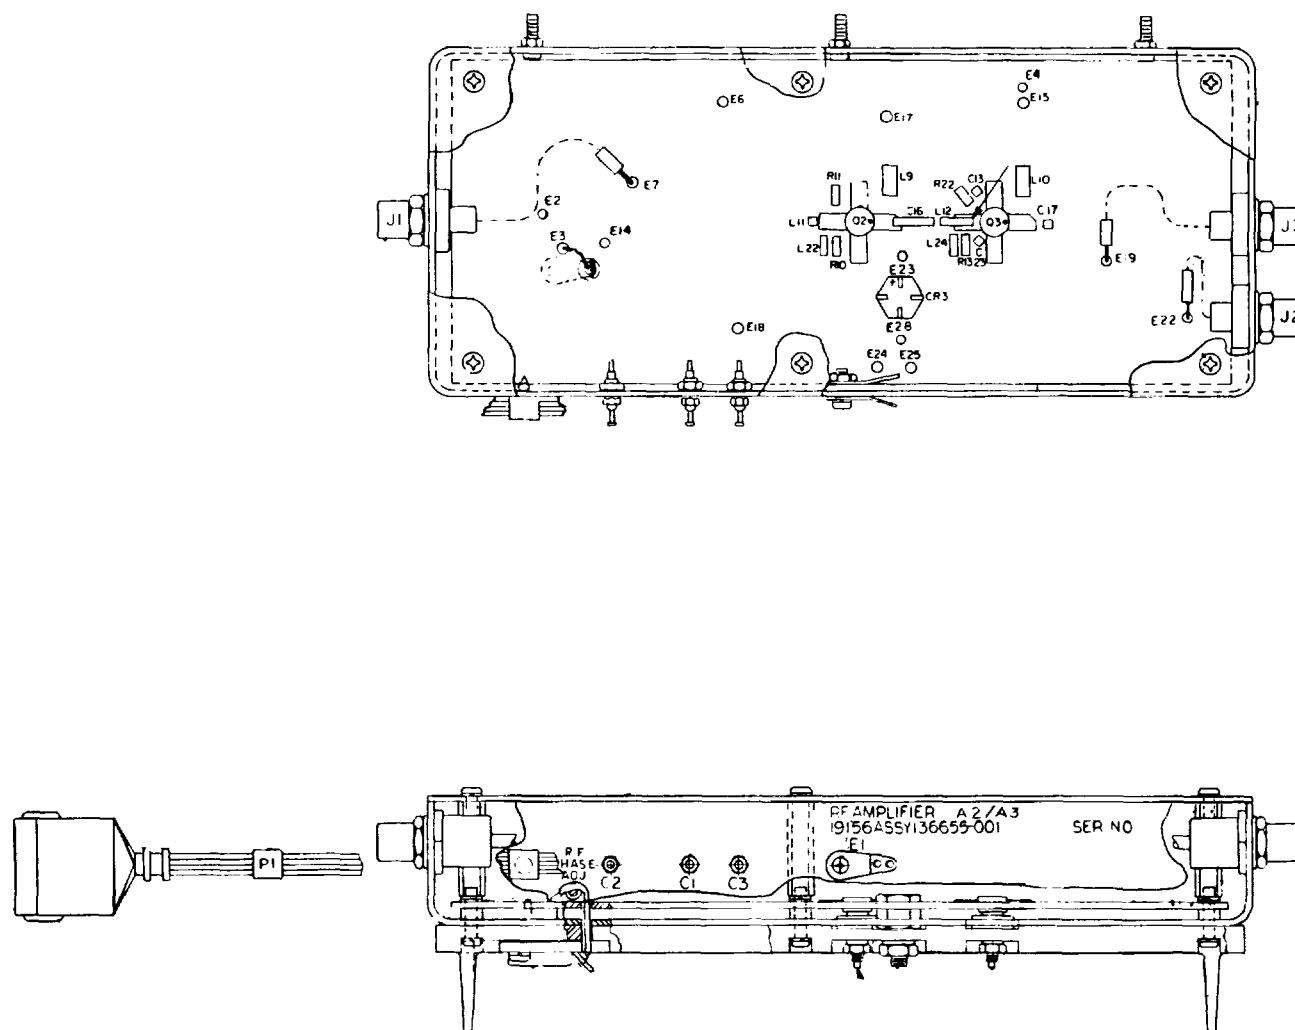

Figure 7-3. RF Amplifier, 1A5A2 and 1A5A3 Parts Location Diagram
c. RF Amplifier Assembly (1A5A2 and 1A5A3) Disassembly. To remove the RF amplifier assemblies, perform the following procedures. Further disassembly should be limited to removal of parts for repair or replacement. Refer to figure 7-3 for location of parts to be replaced.
- (1) Disconnect the coaxial cables from the RF amplifiers.
- (2) Disconnect multi-connector plug from chassis jack.
- (3) Remove the RF amplifiers from the chassis.